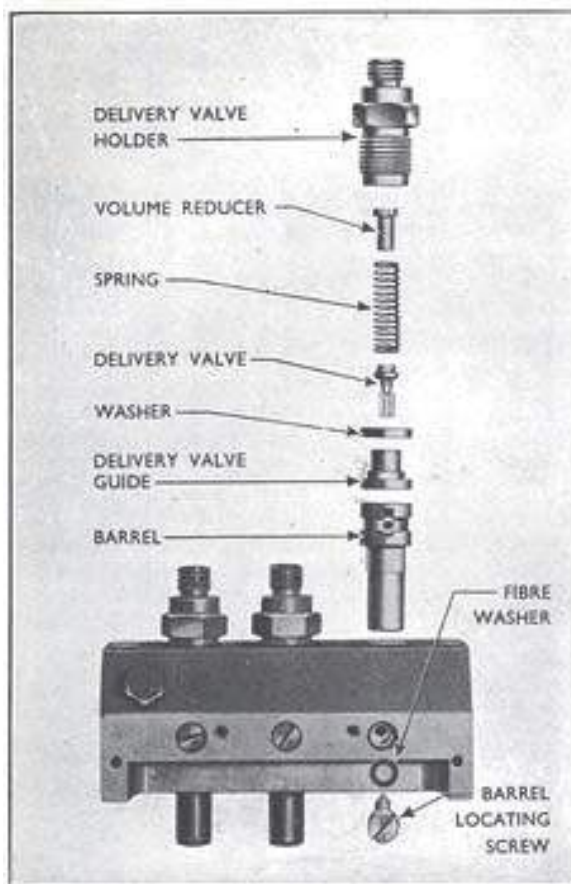

Fig. 16
10. Fit the delivery valve guides, with new sealing washers, to the pump housing after rinsing thoroughly in clean fuel or substitute oil (see Fig. 16).